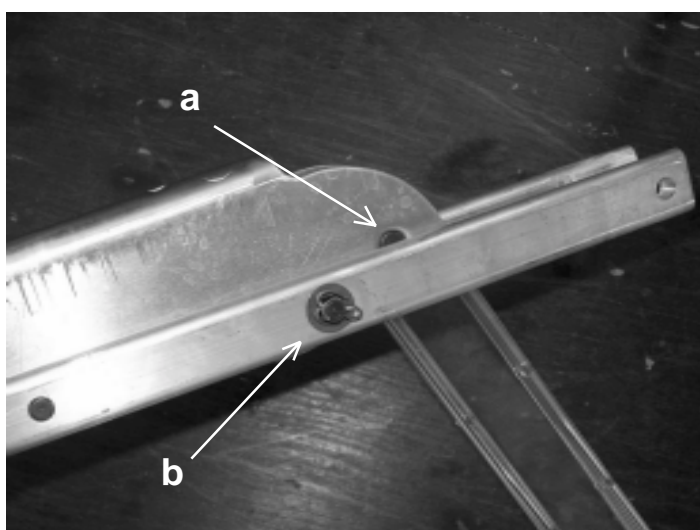

Fig. 23
15.2 Changing draw bar (fig. 23)
- New drawbar to be fitted in sequence a-b (fig. 23)